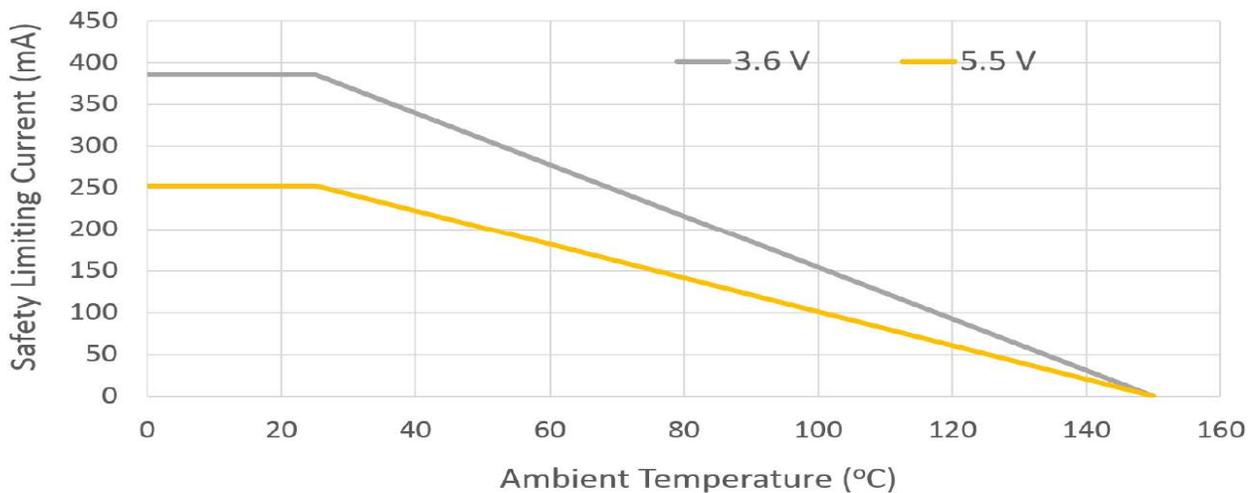
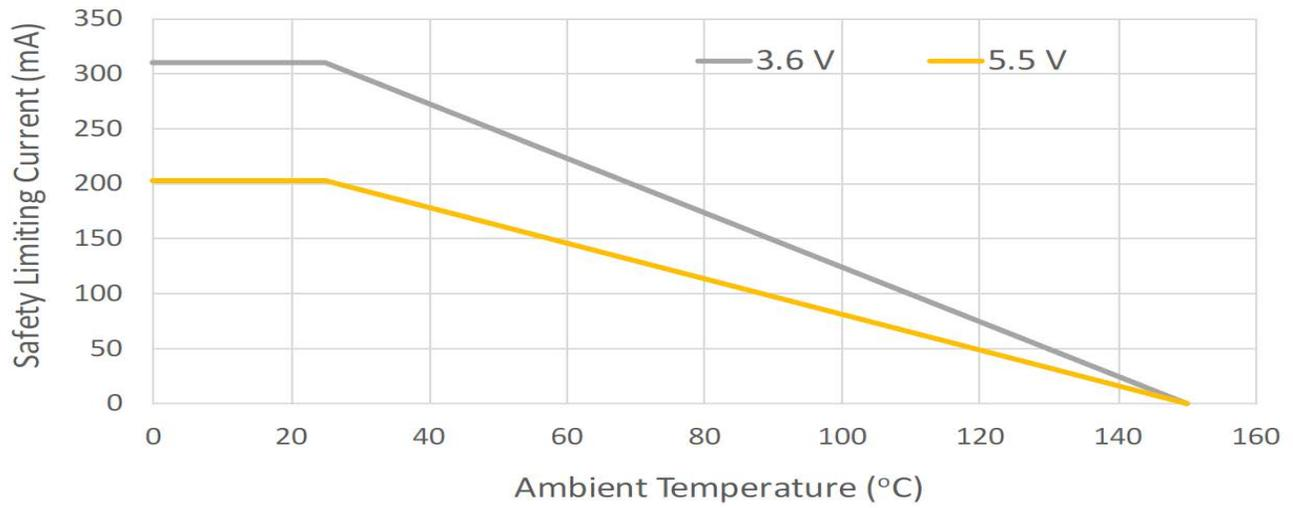

Figure 33. WB Stretched SOIC-8 Thermal Derating Curve (Dependence of Safety Limiting Current)
Figure 34. NB SOIC-8 Thermal Derating Curve (Dependence of Safety Limiting Current)
1. Maximum value allowed in the event of a failure. Refer to the derating curves Figure 33, "WB Stretched SOIC-8 Thermal Derating Curve (Dependence of Safety Limiting Current)," on page 16 and Figure 34, "NB SOIC-8 Thermal Derating Curve (Dependence of Safety Limiting Current)," on page 17.